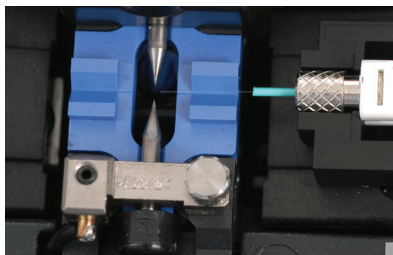
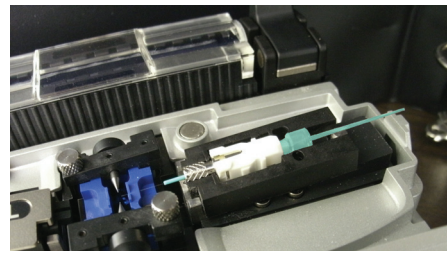

Figure 6
Figure 7
**5. Insert the holder into the right hand side of the splicer (Figure 6), being sure that the fiber stub lays properly into the v-groove block of the splicer (Figure 7).**